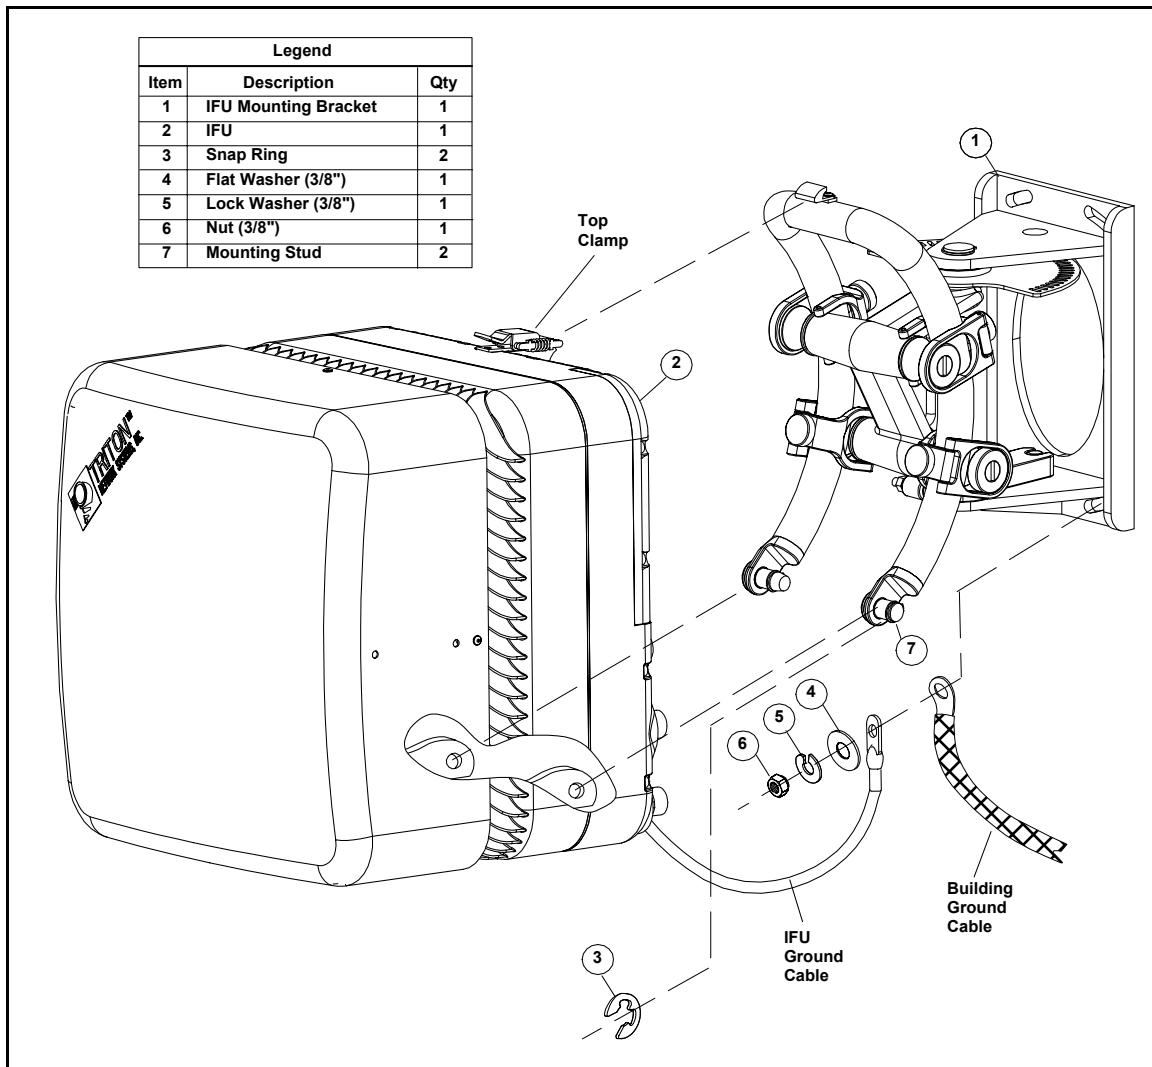

Figure 5-2. IFU Removal
- 1 Remove the nut (6), lock washer (5), flat washer (4), and earth ground strap from the bottom bolt of the mounting bracket (1) (see Figure 5-2).
- 2 Remove the two snap rings (3) from the mounting studs (7) as shown in Figure 5-2.
- 3 Disengage the top IFU clamp and remove the IFU (2) from the mounting bracket (1) as shown in Figure 5-2.